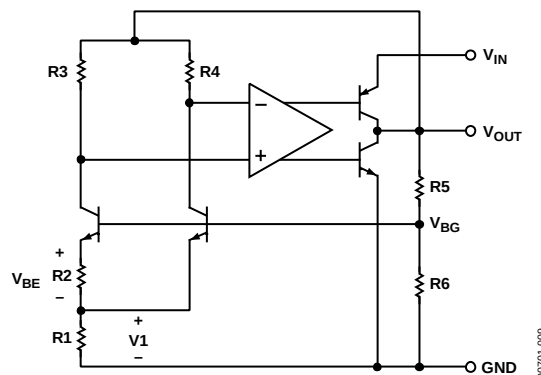

Figure 9. Simplified Schematic
The AD1582/AD1583/AD1584/AD1585 use the band gap concept to produce stable, low temperature coefficient voltage references suitable for high accuracy data acquisition components and systems. These parts of precision references use the underlying temperature characteristics of a silicon transistor's base emitter voltage in the forward-biased operating region. Under this condition, all such transistors have a $-2 \text{ mV}/^{\circ}\text{C}$ temperature coefficient (TC) and a V_{BE} that, when extrapolated to absolute zero, 0 K (with collector current proportional to absolute temperature), approximates the silicon band gap voltage. By summing a voltage that has an equal and opposite temperature coefficient of $2 \text{ mV}/^{\circ}\text{C}$ with the V_{BE} of a forward-biased transistor, an almost 0 TC reference can be developed. In the AD1582/AD1583/AD1584/AD1585 simplified circuit diagram shown in Figure 9, such a compensating voltage, V_1 , is derived by driving two transistors at different current densities and amplifying the resultant V_{BE} difference (ΔV_{BE} , which has a positive TC). The sum of V_{BE} and V_1 (V_{BG}) is then buffered and amplified to produce stable reference voltage outputs of 2.5 V, 3 V, 4.096 V, and 5 V.